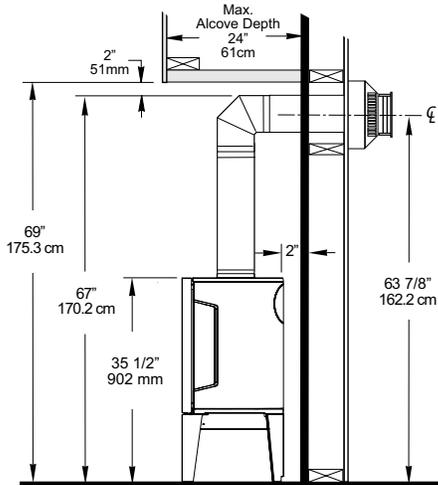

Figure 6.8. Minimum vent required for horizontal termination.
- Any horizontally-terminated vent run must include a minimum 24" vertical rise. See figs. 6.8, 6.9, 6.10.